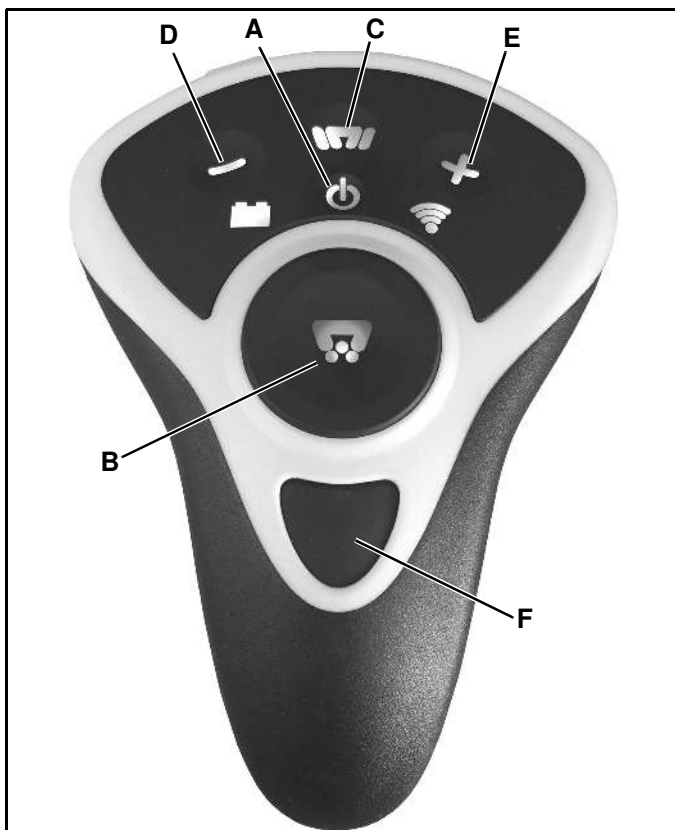

Figure 1-13
1. The center button just above the large middle button (Figure 1-13, A) is the power button. Press and hold the power button for three seconds to turn on the control. To turn the control off, hold the power button until the backlights go out.
2. The large button in the middle of the control (Figure 1-13, B) is the on/off button for the spinner motor. To start or stop the spinner press and release the button. When the motor is running, the light behind the button (salt light) will turn on. The light will blink slowly in speed step 1.
3. The button on the top row, center (Figure 1-13, C) is the vibrator button. Holding the button down will turn on the vibrator (if equipped). Releasing the button will turn it off.
4. The button on the left of the top row (Figure 1-13, D) is the speed reduction button. Pushing and releasing the button will drop the spinner one speed step. There are a total of four speed steps available.
5. The button on the right of the top row (Figure 1-13, E) is the speed increase button. Pushing and releasing the button will raise the spinner one speed step. There are a total of four speed steps available.
6. The button just below the large middle button (Figure 1-13, F) is the pairing button. To enter pairing mode, press and hold the down pressure button for more than 5 seconds but less than 10 seconds. When in pairing mode the back-lights will flash continuously.